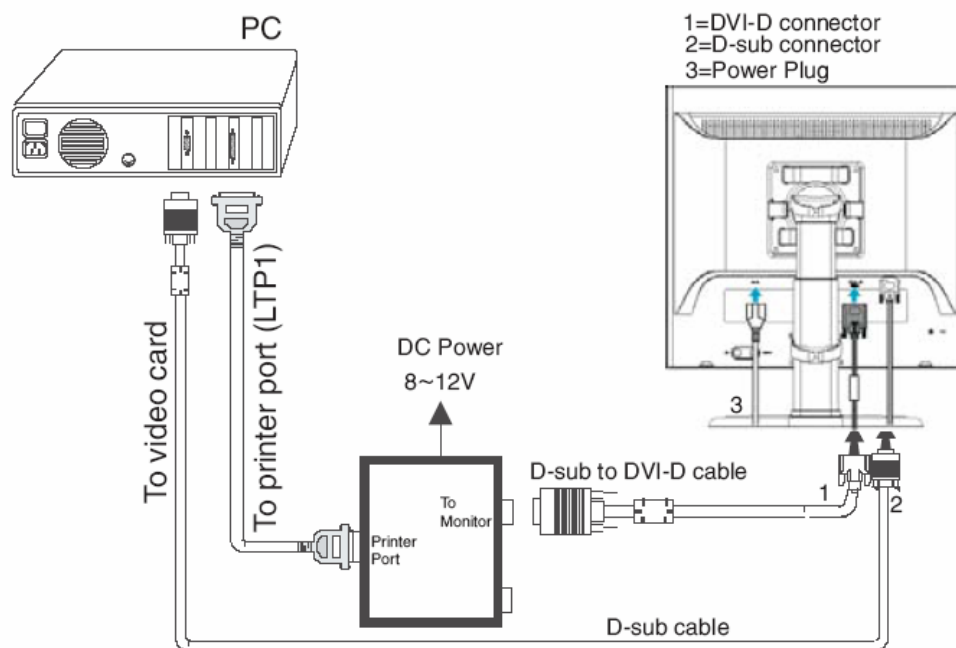

Fig. 27
**Step 1: After initialize alignment box, connecting all cables and box as shown in Fig. 27.**